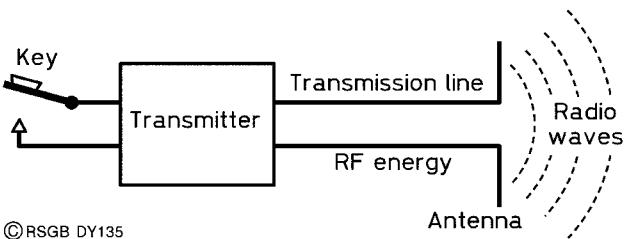

Figure 2 The antenna converts RF current to electromagnetic radio waves
An aerial, or antenna, is also a transducer; it converts radio-frequency (RF) energy in the feeder (or *transmission line*, to give it its proper name) into radiated electromagnetic energy, in the manner shown in **Figure 2**. The aerial has resistance, just like the bulb filament, and if the filament had zero resistance, there would be no radiated energy. In the same way, if the aerial had no resistance, there would be no radiation from it.